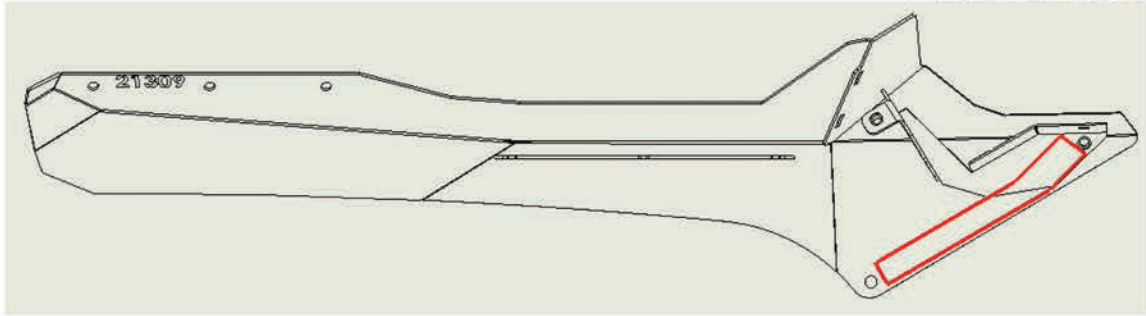

Fig 12
- d. Install the 1" neoprene rubber strip to the inside of both arms as shown in **Fig 12** highlighted in red.
- Loosely install the $\frac{3}{8}$ "-16 hex bolt, zinc lock washer, and zinc flat washer through the lower hinge bracket and into the arm securing the ViCowl from falling lower on the vehicle as indicated in Fig 12 with the black arrow.